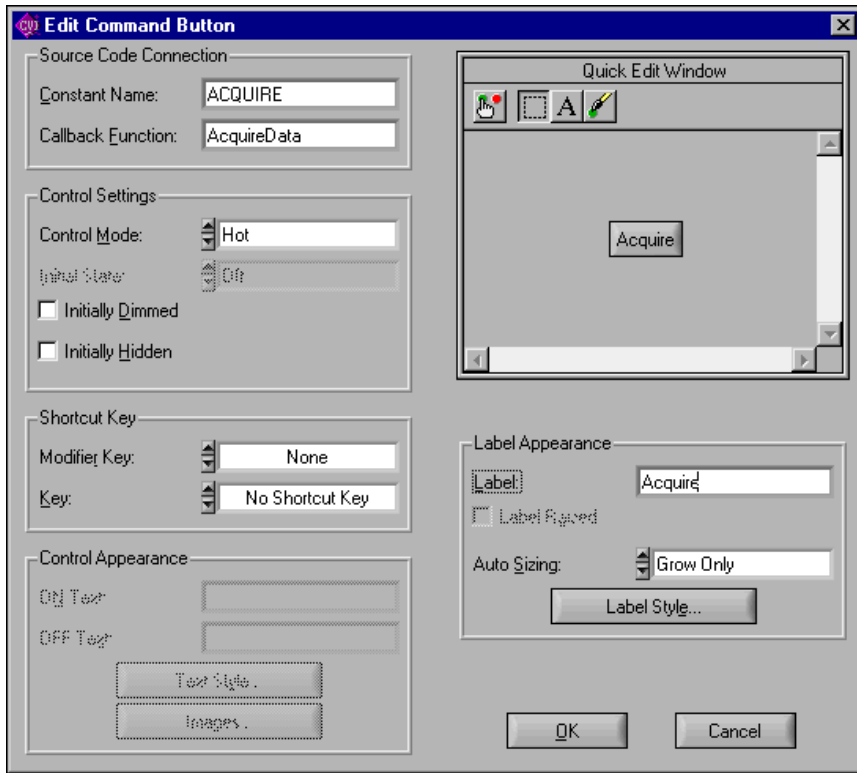

Figure 5-2. Edit Command Button Dialog Box
9. Verify that your Edit Command dialog box matches the one shown in Figure 5-2.